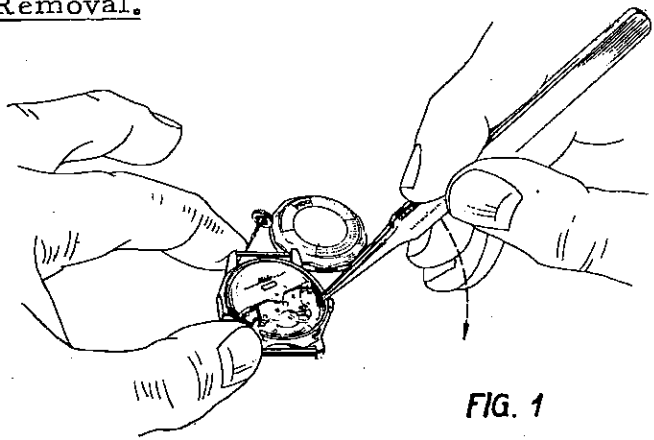
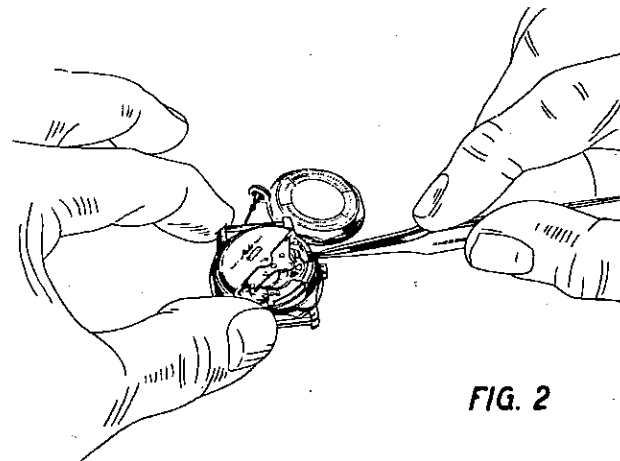

FIG. 1
FIG. 2
3. Insert tweezers into stem hole of the movement (Fig. 1), lift movement (Fig. 2), now loose, out of the case.